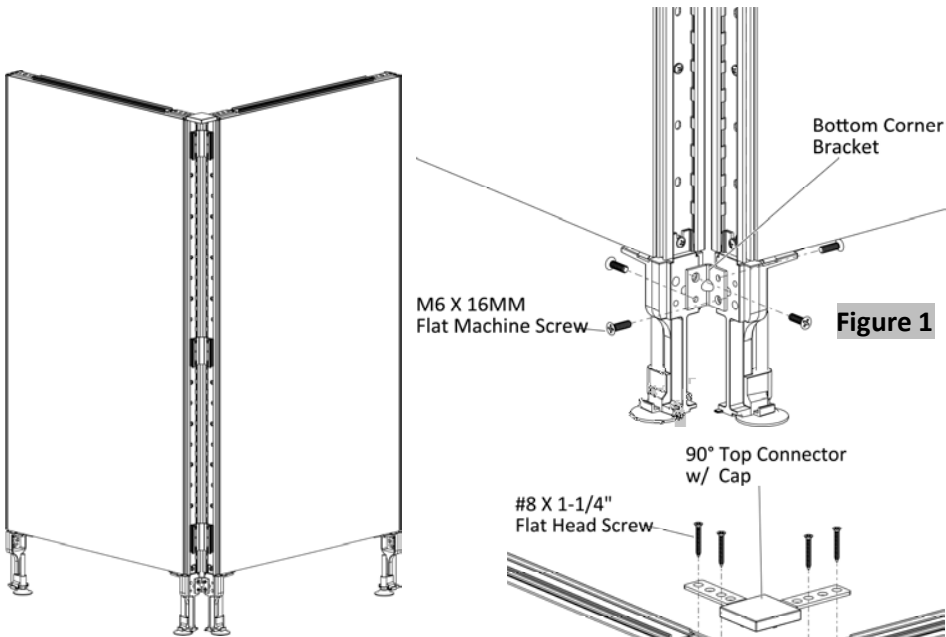

Figure 1
- 2. Securely fasten bottom corner bracket into panel legs with four M6 X 16MM Flat Machine Screws, (Figure 1).
2. Securely fasten bottom corner bracket into panel legs with four M6 X 16MM Flat Machine Screws, (Figure 1).